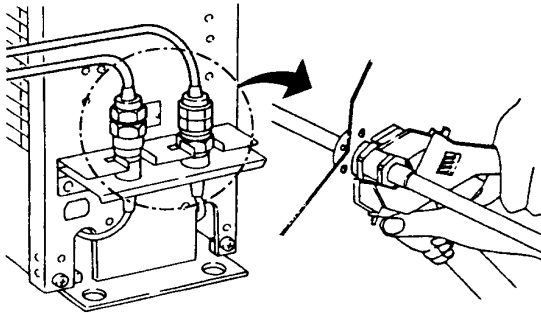

Fig. 1
- 2) Disconnect couplers using by proper size wrenches (on coupling body hex and union nut). (See Fig. 1)